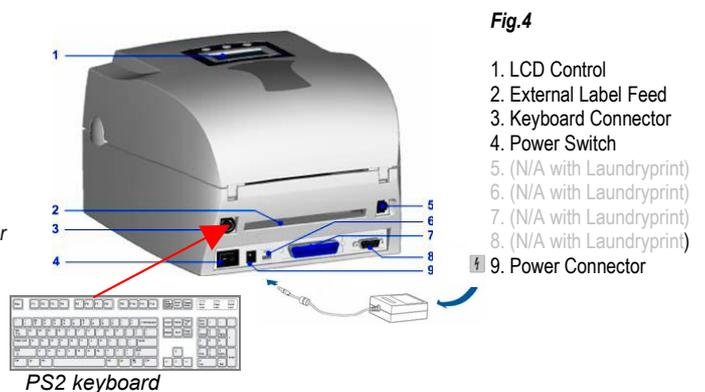

Fig.4
- Connect the keyboard & mains adaptor to the printer (see Fig.4).
- Switch on the printer (see Fig.4 #4) & the LED power will illuminate (Fig – 8/9).